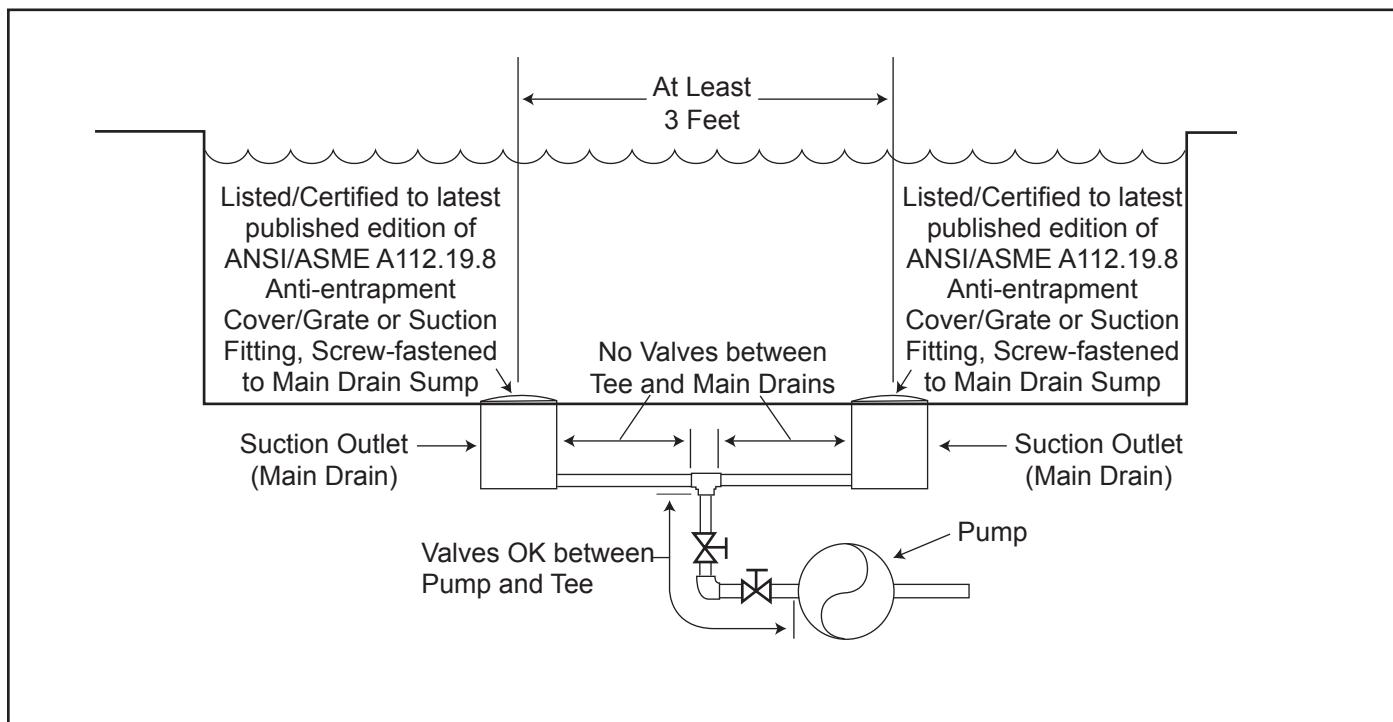

Figure 1. Number of Suction Outlets Per Pump
Number of Suction Outlets Per Pump - Provide at least two (2) main drains, with covers, as suction outlets for each circulating pump suction line. The centers of the main drains (suction outlets) on any one (1) suction line must be at least 3 feet apart, center to center. See Figure 1 on page 7.
The system **must** be built to include at least two (2) suction outlets (drains) connected to the pump whenever the pump is running. However, if two (2) main drains run into a single suction line, the single suction line may be equipped with a valve that will shut off both main drains from the pump. The system shall be constructed such that it shall not allow for separate or independent shutoff or isolation of each drain. See Figure 1 on page 7.